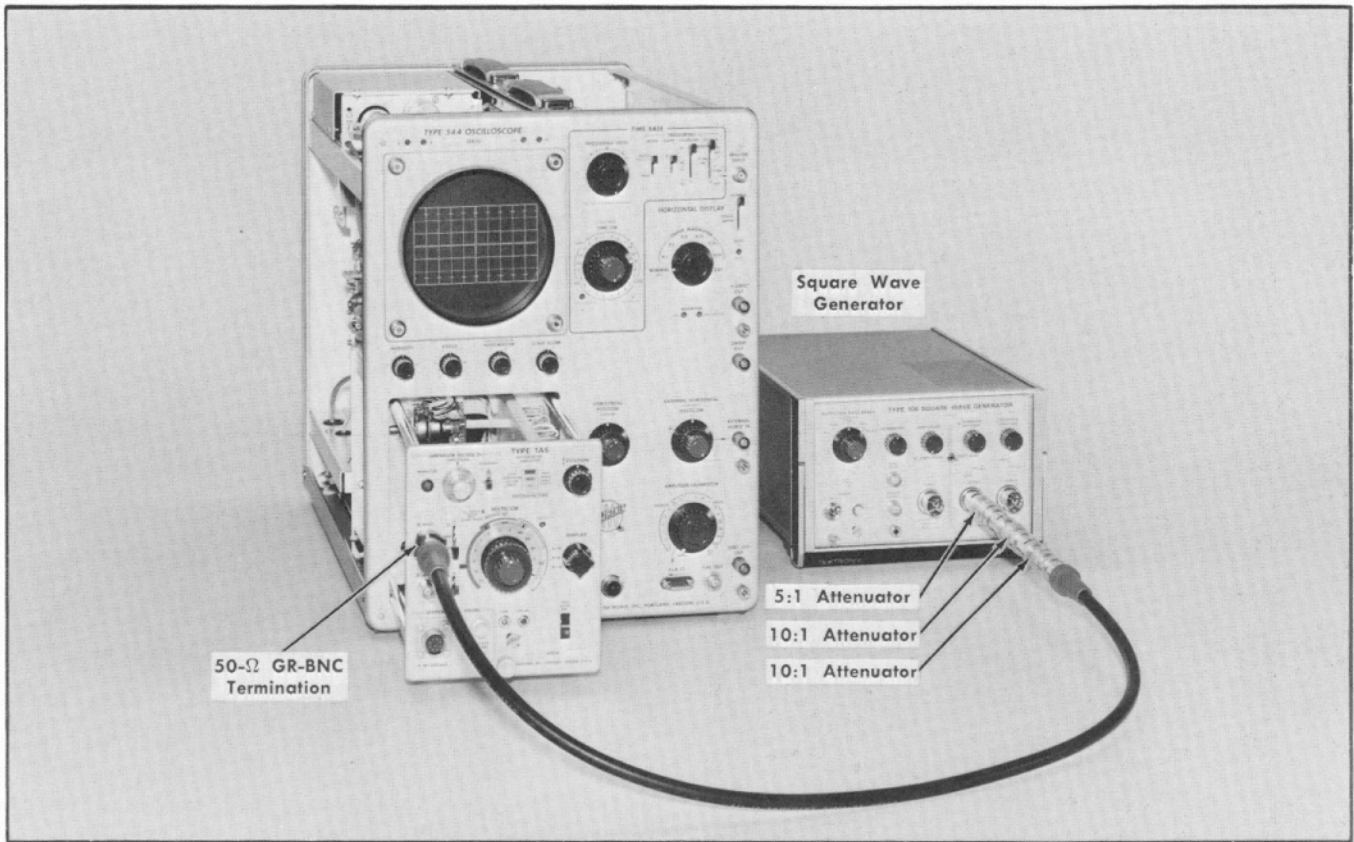

Fig. 6-11. Equipment setup for steps 8 through 12.
a. Equipment setup is shown in Fig. 6-11. Typical waveforms appear in Fig. 6-12.
- a. Equipment setup is shown in Fig. 6-11 except: